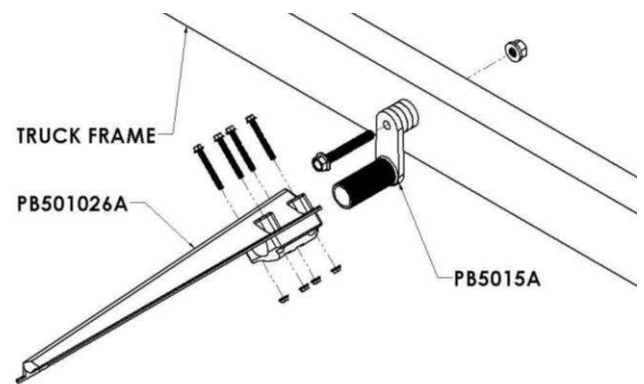

Figure 11
- A. Once the brackets are placed in position with the fender, tighten the 5/8" x 4-1/2" bolts that go through the PB5015 steel swivel to attach the swivel securely to the frame (Figure 11).